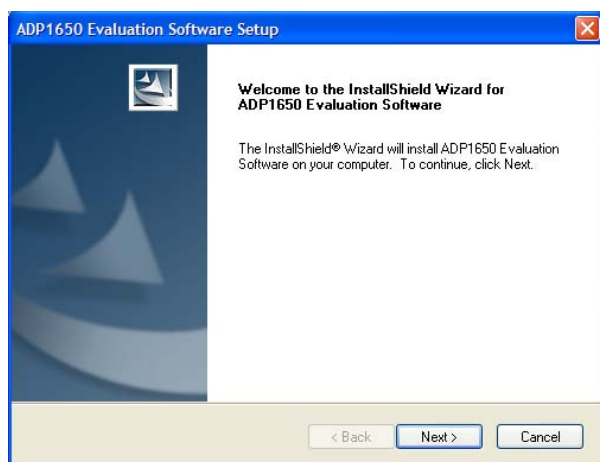

Figure 2. ADP1650 Evaluation Software Setup
1. Insert the ADP1650-EVALZ setup CD into the CD-ROM and run **Setup.exe**. When the dialog box shown in Figure 2 appears, click **Next**.